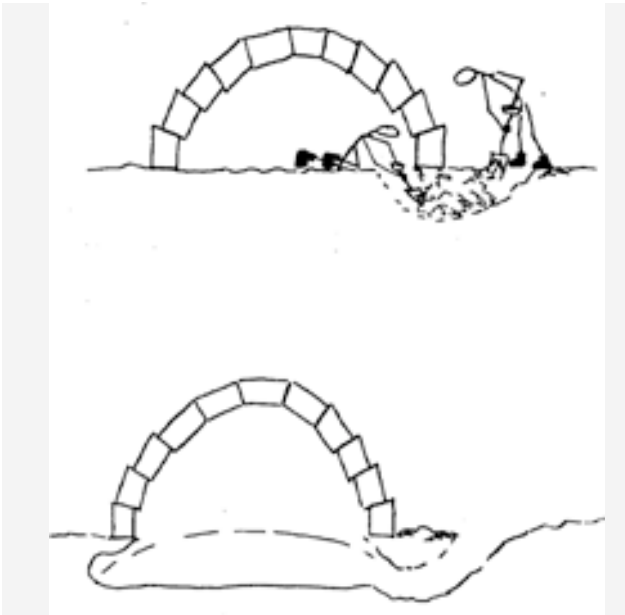

Figure 11-18
8. The inside person should next dig down into the snow at the base of a wall and tunnel over to meet the entrance tunnel being dug by a person outside, as shown in figure 11-18.